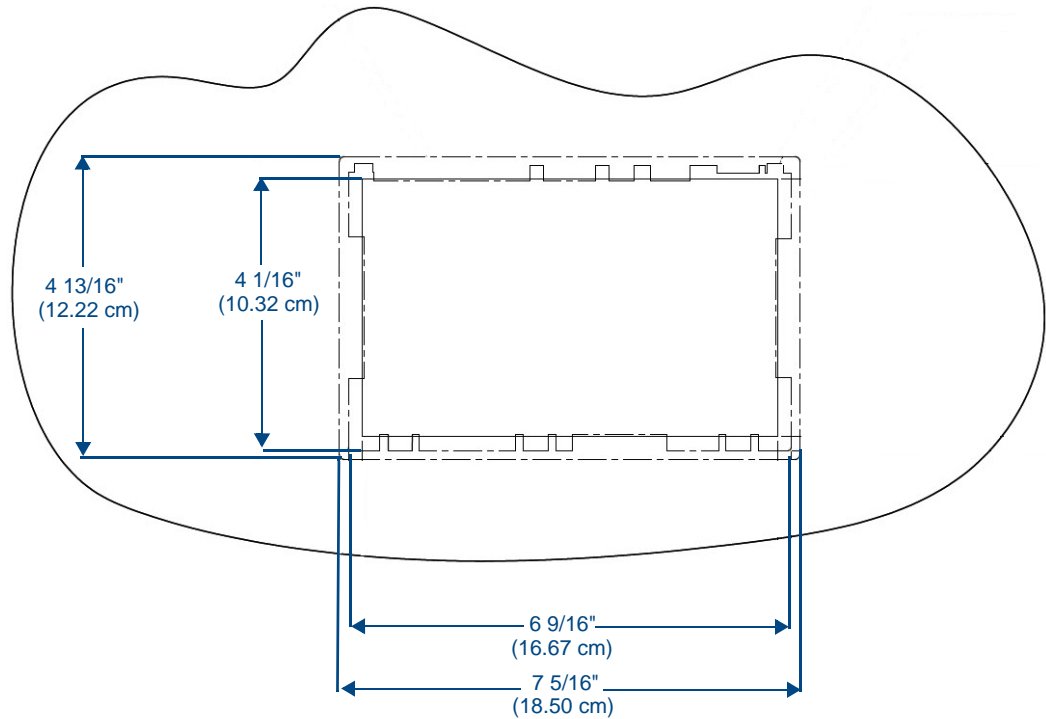

FIG. 16 MXD-700 Installation Template
2. For best results, use the MXD-700 Installation Template (**68-5968-04**) to ensure proper placement (FIG. 16). The template is marked on one side with directions for both landscape and portrait installations to ensure that the touch panel and back box are properly aligned.